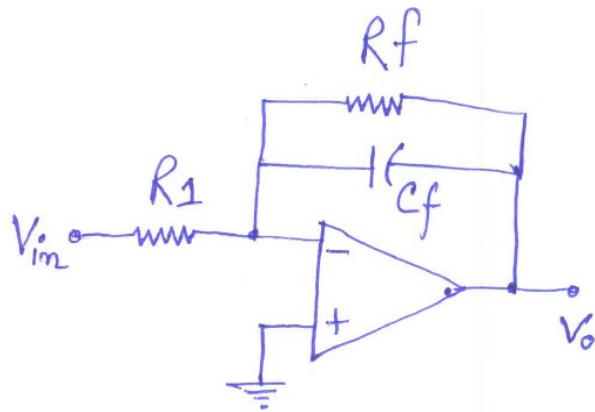

Fig.5.26 Practical op-amp integrator circuit
- To overcome this problem practical integrator has been developed by connecting one feedback resistance connecting parallel to capacitor as shown in fig.5.26